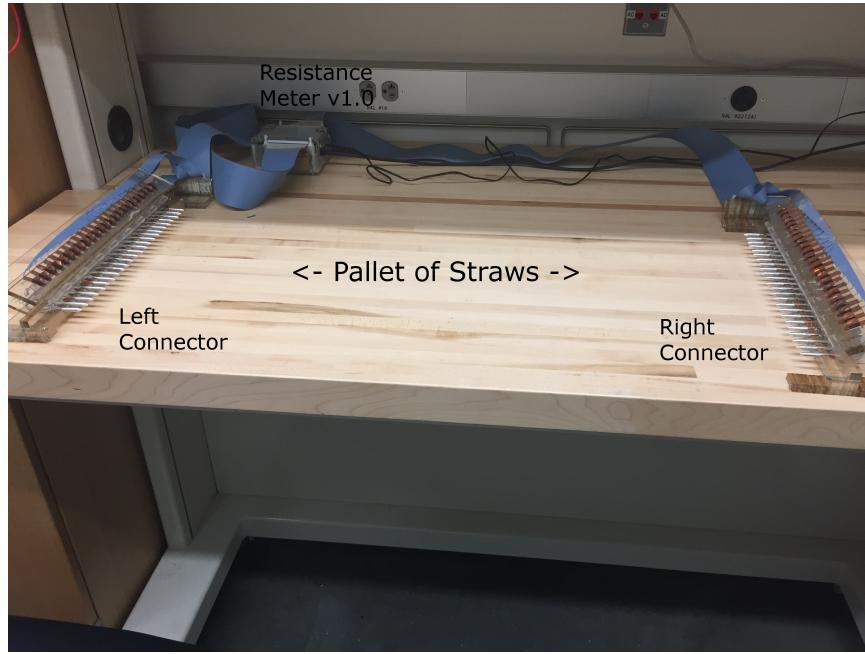

Figure 2: Full resistance meter setup labeled.
- Resistance Meter v1.0 (Arduino Uno & PCB in acrylic box) [Figure 2]